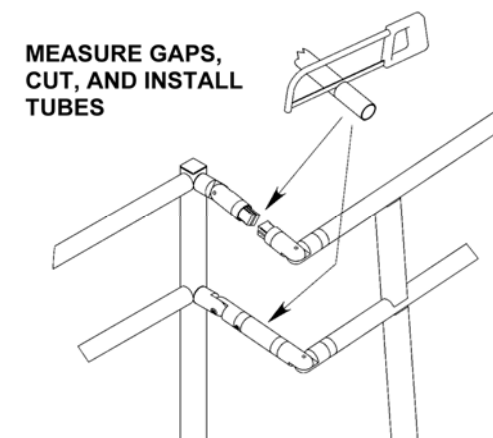

FIG. 37
- vi) Cut round tube to the length measured (FIG. 37).